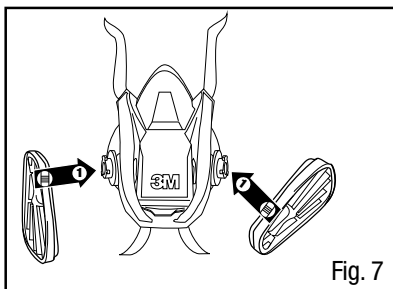

Fig. 7
1. Align notch on edge of 603 adapter with facepiece mark as shown (Fig. 7).